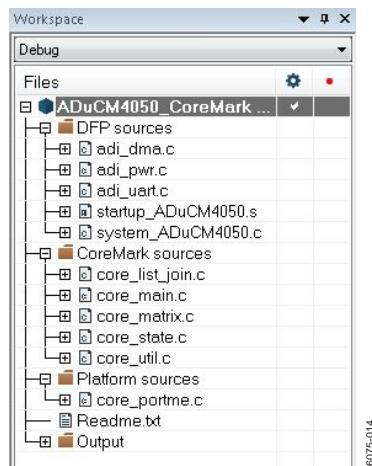

Figure 14. Project Files
4. Browse through the project obtained and open the .ewp extension file. The files available in the workspace are shown in Figure 14.